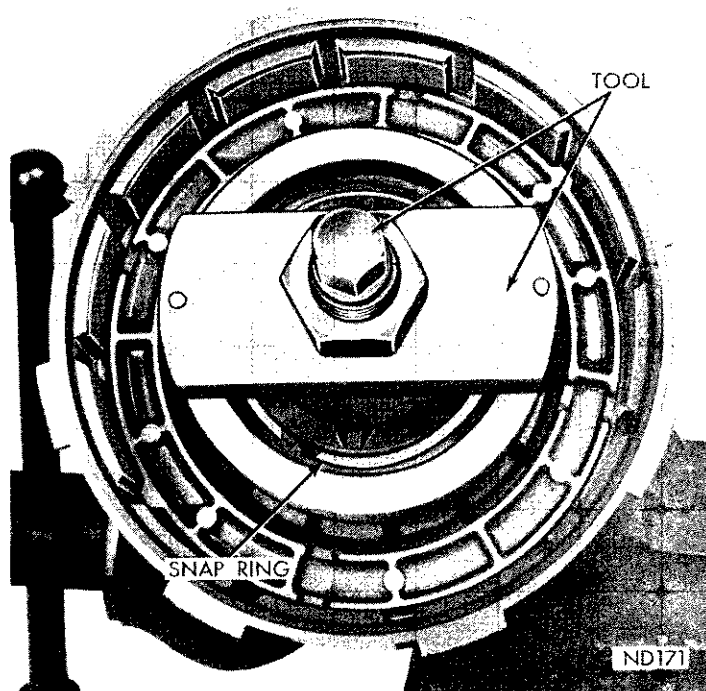

Fig. 54—Removing or Installing Front Clutch Retainer Snap Ring (A-727)
(1) Remove large selective snap ring that secures pressure plate in the clutch piston retainer. Lift pressure plate and clutch plates out of the retainer.
(2) Install compressor, Tool C-3863 over the piston spring retainer (Fig. 54). Compress springs and remove snap ring, then slowly release tool until spring retainer is free of the hub. Remove tool, retainer and springs.
(3) Invert clutch retainer assembly and bump on a wood block to remove piston. Remove seals from piston and clutch retainer hub.
Position spring retainer and snap ring over springs. Compress springs with Tool C-3863 (Fig. 54), and seat snap ring in the hub groove.